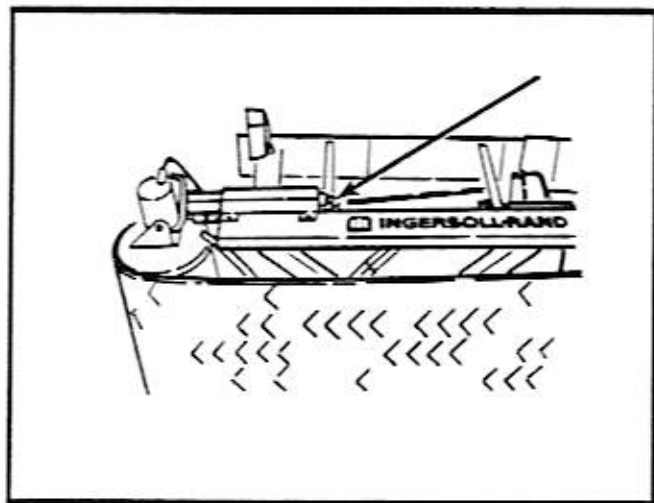

Figure 14-3. Conveyor Belt Adjusting Rods
1. Loosen the locking nuts on the adjusting rods, on each side of the primary conveyor. Refer to Figure 14-3.